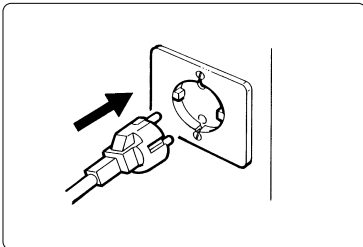

Fig. 5
- c) Insert the plug into the electrical power outlet (see fig. 5).